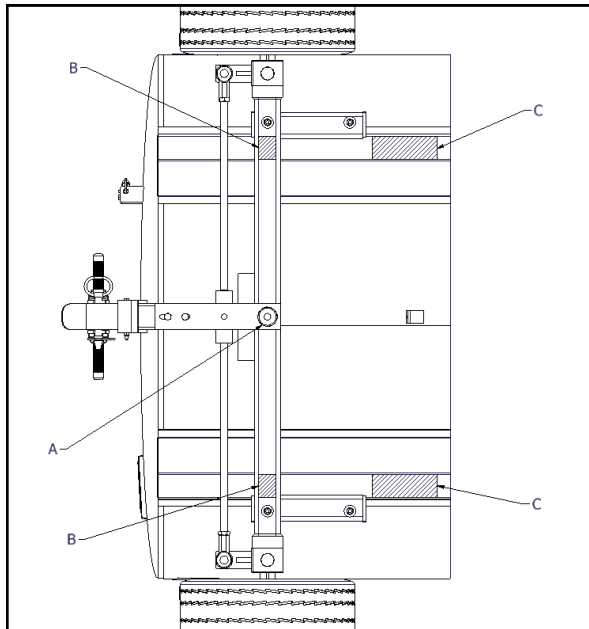

Figure 4-11 Lift Points
To remove the entire Rear Undercarriage assembly, the equipment must have the back end raised. See Sections 4.12, and 4.13 with Figure 4-11.
- Raise equipment with suitable maintenance jack (see Figure 4-11 reference arrow A for jack placement) and allow for 2-inches of space between the wheels and the ground.
- Place cribbing under tank skids to safely support the equipment. (see Figure 4-11, reference points labeled with a C).